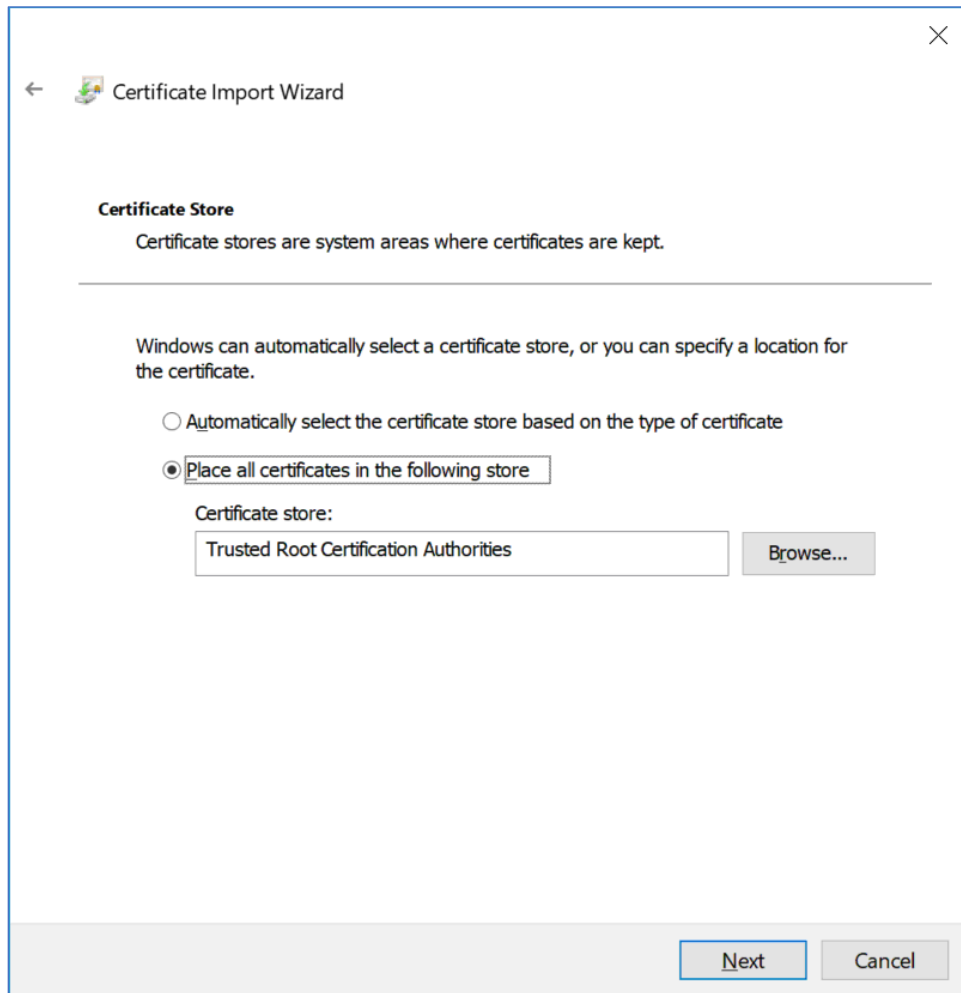

Figure 334: Windows Certificate Import Wizard-Choose Certificate Store
8. Click on the Browse button, then select “Trusted Root Certification Authorities.” When the Certificate Store parameter completes, click on the Next button. The Certificate Store screen is shown in Figure 334.